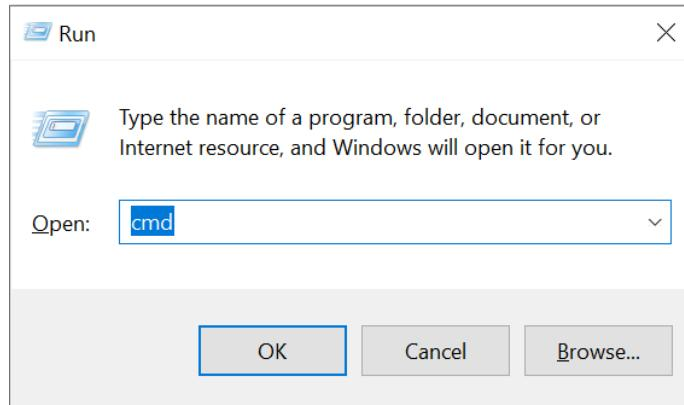
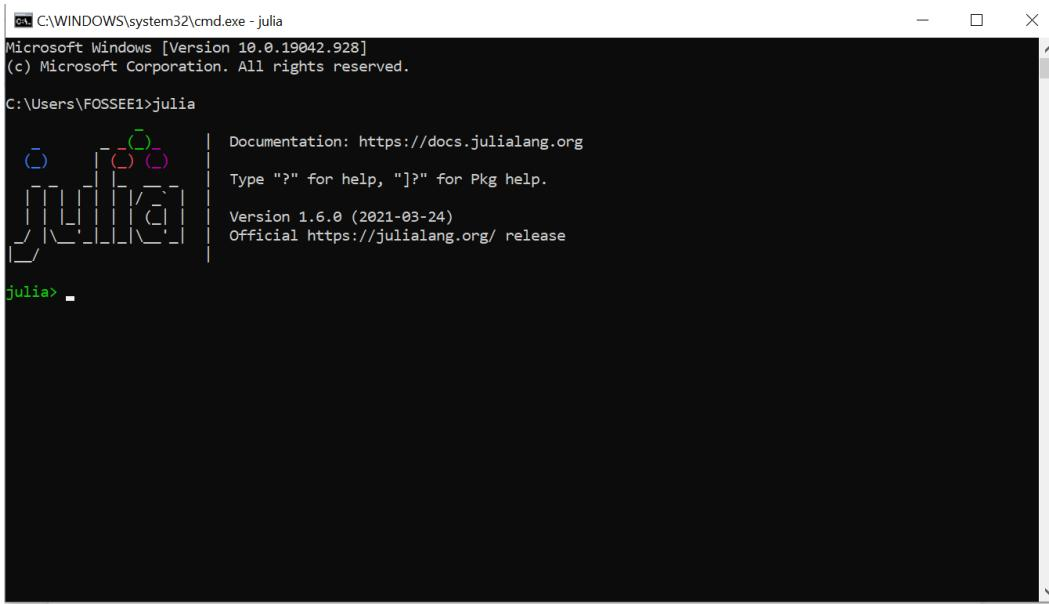

Figure 3.29: Launching the Command Prompt on Windows
Figure 3.30: Command Prompt on Windows
1. Launch the Command Prompt. Press the Windows key+R together. A window, as shown in Fig. 3.29 appears. In the text box adjacent to Open, type cmd, and press Enter. The Command Prompt, as shown in Fig. 3.30 appears. By default, it points to the home directory.
1. Launch the Command Prompt, as shown in Fig. 3.29.